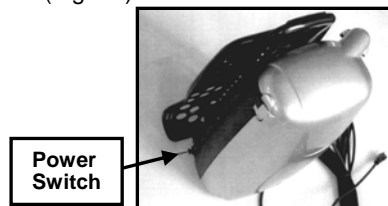

Fig. 21
- Turn the unit on by pressing the switch located near the base of the unit to turn the vacuum cleaner on. (Fig. 21)